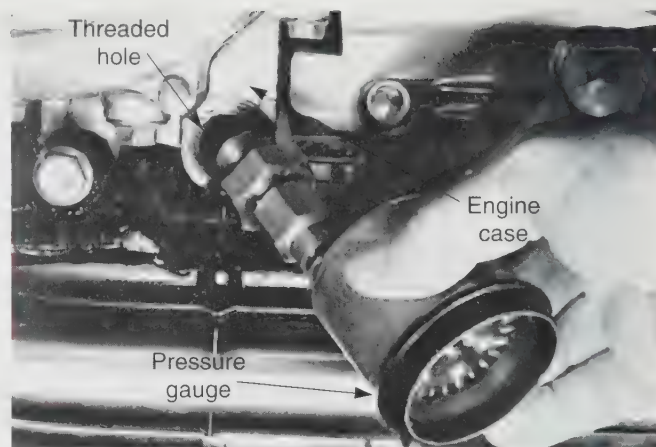

Figure 10-34. An oil pressure gauge will help to determine condition of lubrication system.
3. Install the oil pressure gauge, **Figure 10-34**.